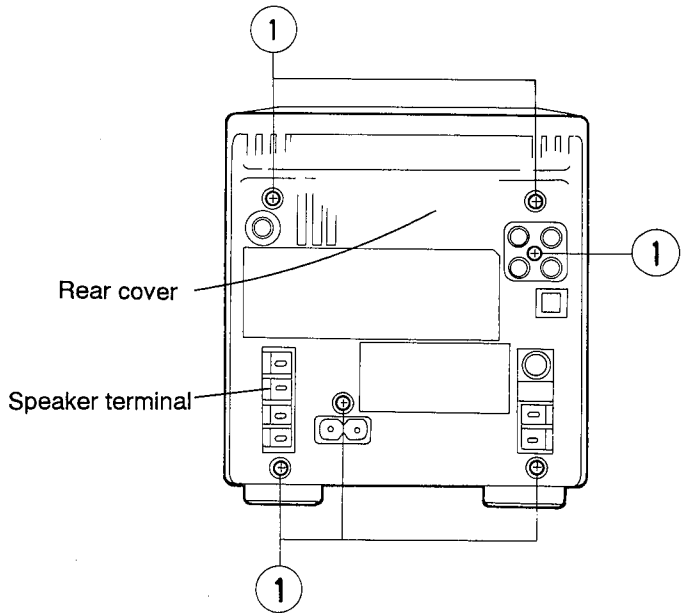

Fig.3-1
- Remove the six screws ① retaining the rear cover from behind the body.
- From the bottom face of the body, remove the four screws ② retaining the rear cover.
- After passing the lock pawls at the speaker terminals through the position in Fig 3-1, remove the rear cover.
- Remove the two screws ③ retaining both of the right and left side panels.